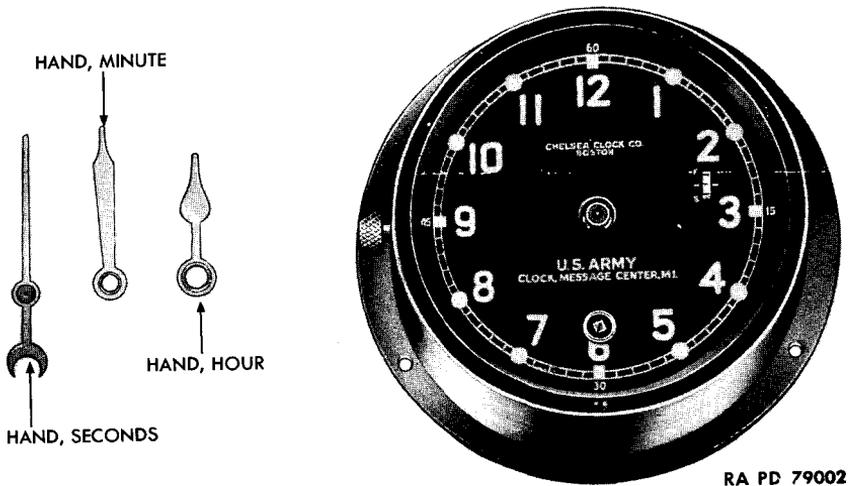

Figure 204 — Message Center Clock M1 — Hands Removed
c. **Remove Hands.** Protect dial with paper and remove hands, using the hand remover (fig. 204).
t. Replace Hands (fig. 204). Place hour hand on the post of hour wheel with point at the twelfth hour. Place minute hand on cannon pinion seat with point at the twelfth hour. Place sweep seconds hand on the fourth wheel pinion with point at the twelfth hour. Turn hands through a complete revolution around dial, checking them for position at the twelfth hour. If hands do not line up properly at the twelfth hour, remove sweep seconds and minute hands and realine them.